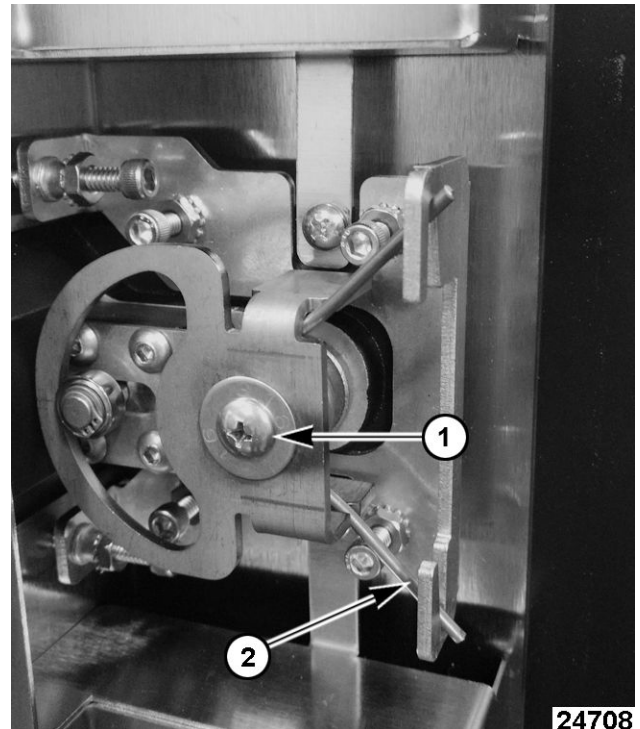

Fig. 14
- Remove cam screw (1, Fig. 14) and washer.
- Release torsion spring from lower slot (2, Fig. 14) in clamp bracket, then release top spring.